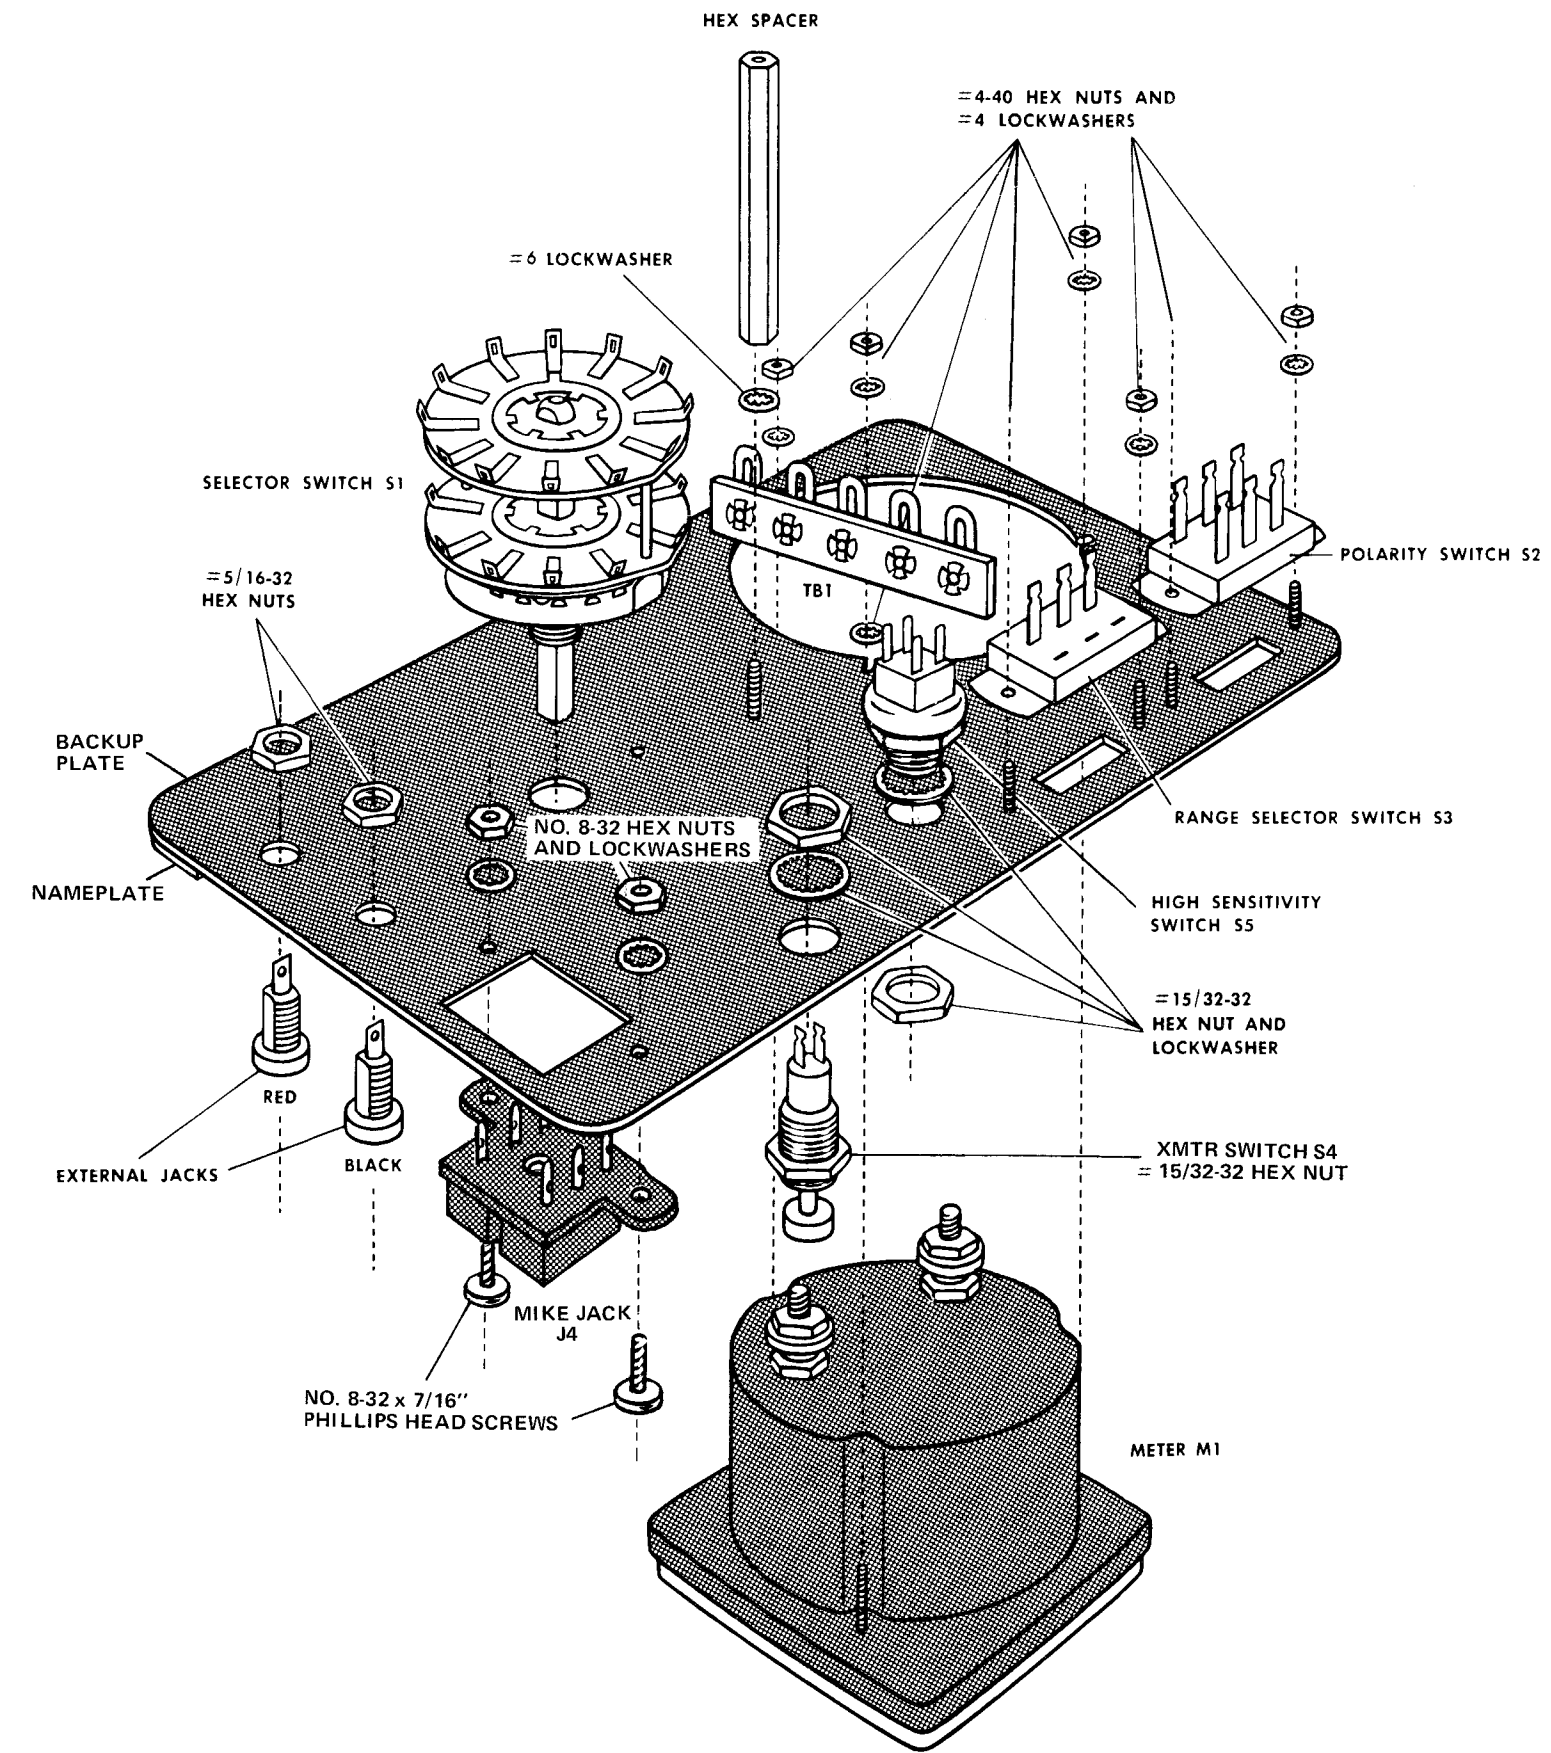
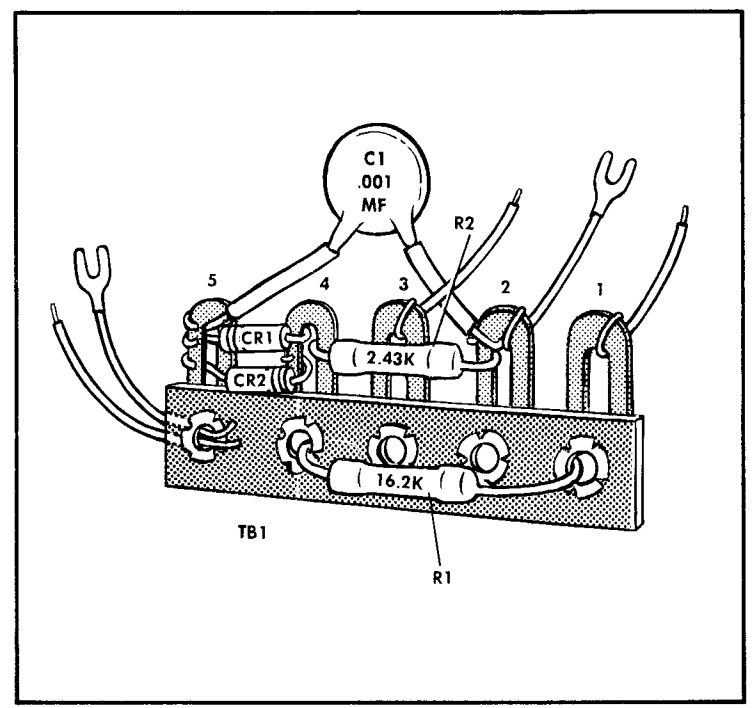

Figure 2 - Front Panel Assembly
Figure 1 - Assembly of TB1
- ☐ Peel the protective film off of the nameplate and align with the backup plate. Then install Selector Switch S1 with a 3/8-inch nut and lockwasher (see Figure 2).
Front Panel Assembly (see Figure 2)
- ☐ Screw the 2-inch hex spacer on the screw post, using a #6 lock-washer (see Figure 2). Bend TBl away from the spacer so that none of the components touch the spacer.
- ☐ Sleeve one lead of 390-ohm resistor R5 (orange-white-brown-gold bands). Connect unsleeved lead of R5 to terminal 1 (S) of calibration potentiometer R6 and connect the sleeved lead of R5 to the top terminal of section 1 (S) on High Sensitivity switch S5.
- ☐ Connect a 1-1/2-inch piece of bare hook-up wire (use sleeving) from terminal 2 (S) to terminal 3 (S) of potentiometer R6, and then the - meter post. Use flat washer and nut.
- ☐ Connect a 1-inch piece of bare hook-up wire from the bottom terminal of section 1 (S) on High Sensitivity switch S5 to terminal 1 (S) of TBl.
- ☐ Connect a 3-inch piece of insulated hook-up wire from the top terminal of section 2 (S) on High Sensitivity switch S5 to terminal 11 (S) on section B of Test Selector switch S1.
- ☐ Connect the 301K-ohm resistor R7 from the bottom terminal of section 2 (S) on High Sensitivity switch S5 to terminal 7 (S) on section B of Test Selector switch S1.
- ☐ Check the test set carefully and remove any loose bits of solder or wire clippings. Then check the assembled test set against Figures 1 through 5 for any mistakes.